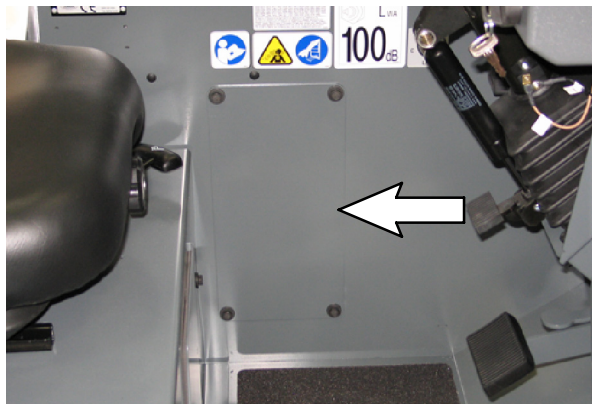

FIG. 1
1. Remove the side access panel from the operator compartment. Set the access panel and hardware aside. Refer to Fig. 1.
5. Reinstall the access panel into the operator compartment. Refer to Fig. 1.